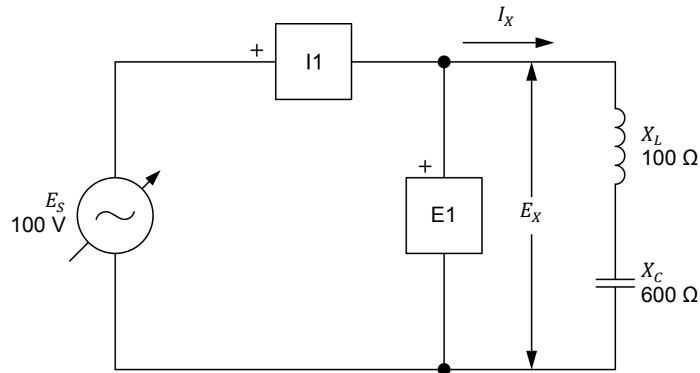

Figure 2-17. Series ac circuit containing an inductor and a capacitor.
17. Make the necessary connections and switch settings on the **Inductive Load** and **Capacitive Load** (or on the **Inductive and Capacitive Loads**) in order to obtain the values of inductive reactance X_L and capacitive reactance X_C indicated in the circuit of Figure 2-17.